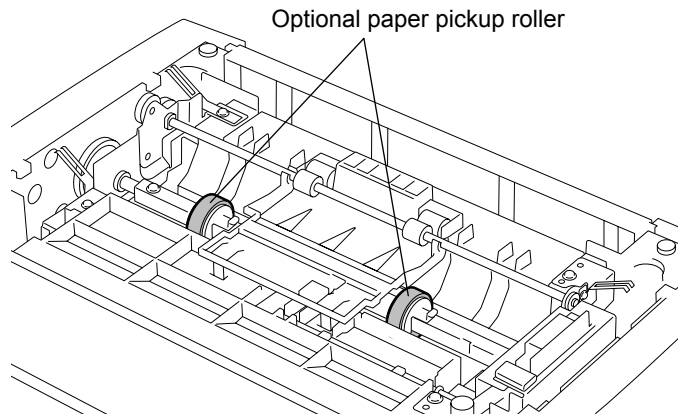

Fig. 10-21
- 14) Optional paper pickup roller (P.10-14 "Fig. 10-21")